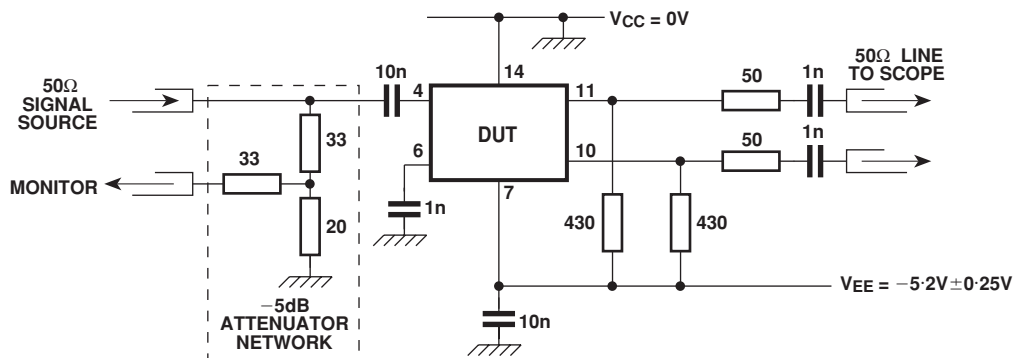

Fig. 5 Toggle frequency test circuit
3. The test configuration for dynamic testing is shown in Fig.5.